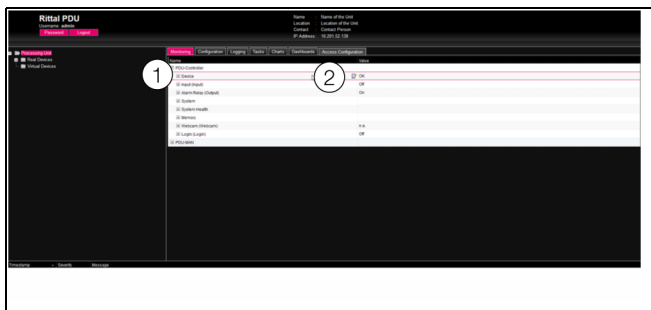

Fig. 57: Select multiple parameters
- Simply open the "PDU-Controller" entry by clicking on the "plus" symbol in front of that entry (fig. 57, item 1).
- Position the mouse pointer at the end of the first column in the "Device" line (fig. 57, item 2). An "Edit" symbol will appear, and the mouse pointer will change to a "Hand" symbol.